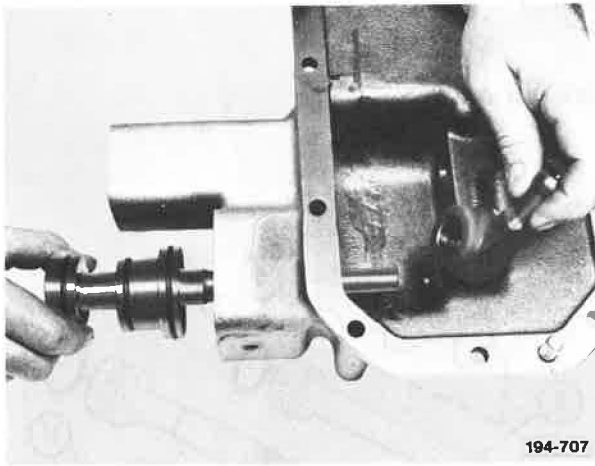

Figure 5-342. Removing Shift Rail and Shifter
19. Slide Lo/Direct shift rail rearward out of cover, and, as it moves, remove Lo/Direct shifter through bottom opening. See Figure 5-342.